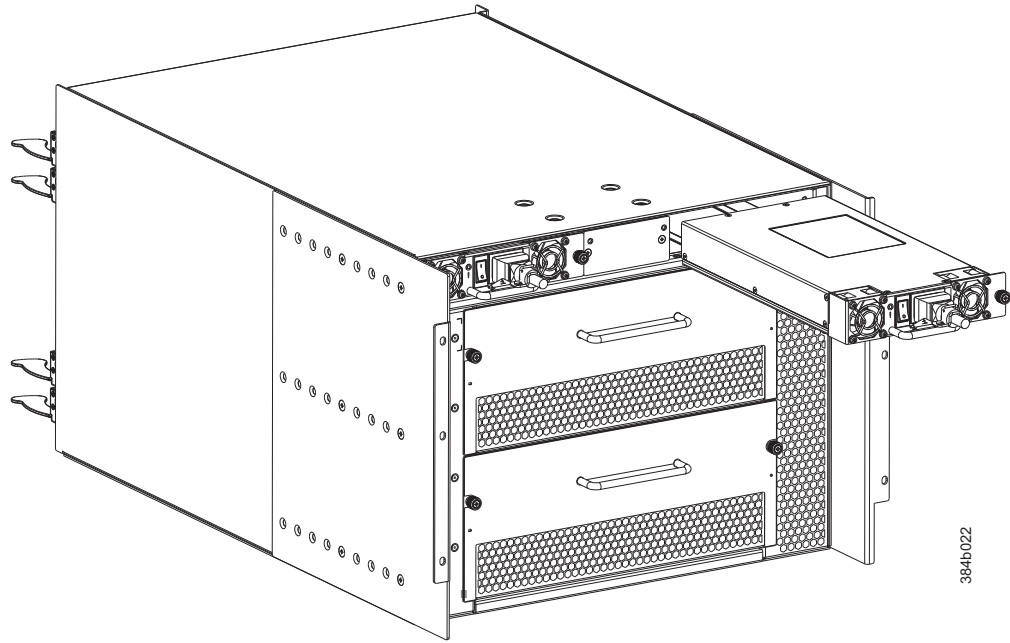

Figure 40. Removing and installing a power supply
5. Grasp the handle and pull, sliding the power supply from the chassis (see Figure 40 on page 83). Support the power supply from beneath as you remove it.